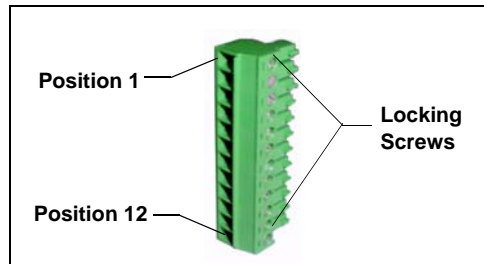

Figure C-5. 12-Position Connector Plug
1. Locate two twisted pairs of wires (P/N 043598) and 12-position connector plugs (P/N 923686) (see Figure C-5) in the ICS-2100 and AS Ship Kits.